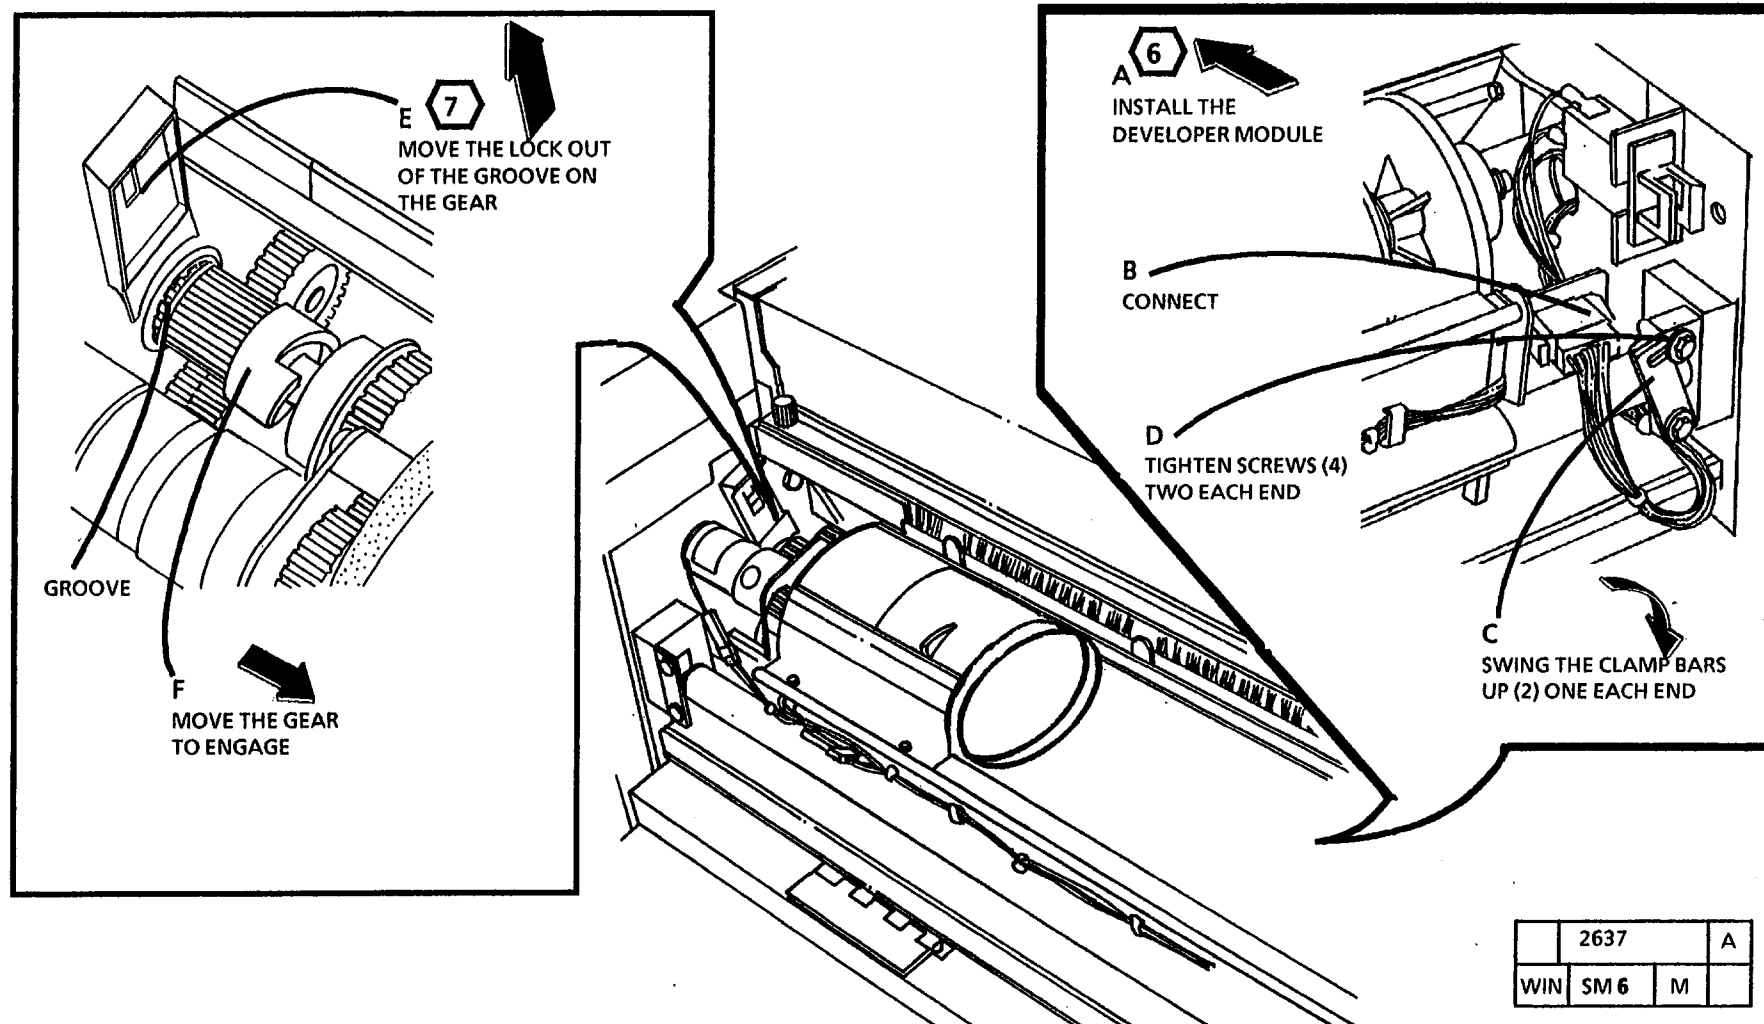

Figure 12. Reinstall the Developer Module
10. (Figure 12): Reinstall the Developer Module.